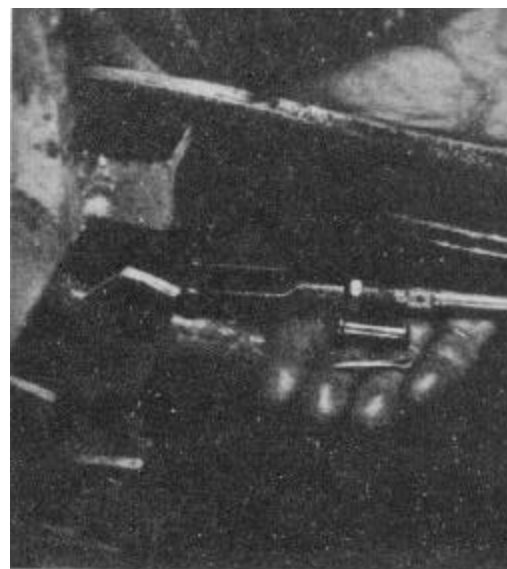

Figure 5-96
2. Release the jam nut from the brake cable clevis and back off approximately three to four turns (Fig. 5-96).
4. With the operator's seat still in the operating position, again remove the clevis pin from the brake cable clevis. Turn the brake cable clevis counterclockwise one rotation. Reinstall the clevis pin attaching the brake cable clevis to the brake crank (Fig. 5-96).